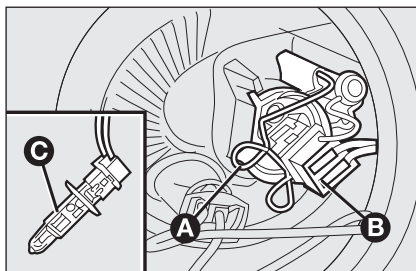

fig. 25
- release the bulb holder catch **A-fig. 25**;